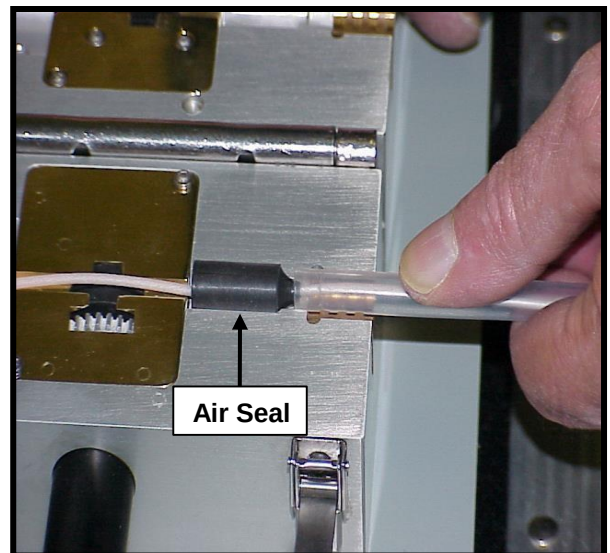

Figure 11
11.4 When tube span has de-pressurized, open Blowing Head and carefully remove Fiber Bundle Air Seal from around Fiber Bundle. **See Fig. 11**